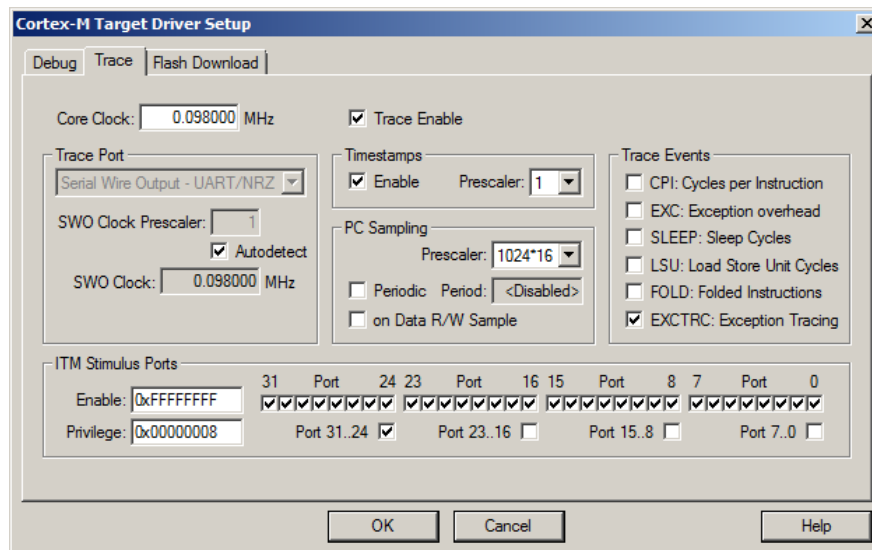

Figure 6: Trace Configuration window.
In order to see the Serial Wire Viewer features, the Trace must be configured as in Figure 6.
- 5) Click on the Trace tab to open Figure 6.
- 9) Unselect Periodic and on Data R/W Sample. Window will look like Figure 6.
You select various SWV elements in Figure 6. It is important to note that it is easy to overload the single wire Serial Wire Output (SWO) pin. This is more pronounced with the A2F200 than the A2F500 device. The general rule is to activate only those features you need.